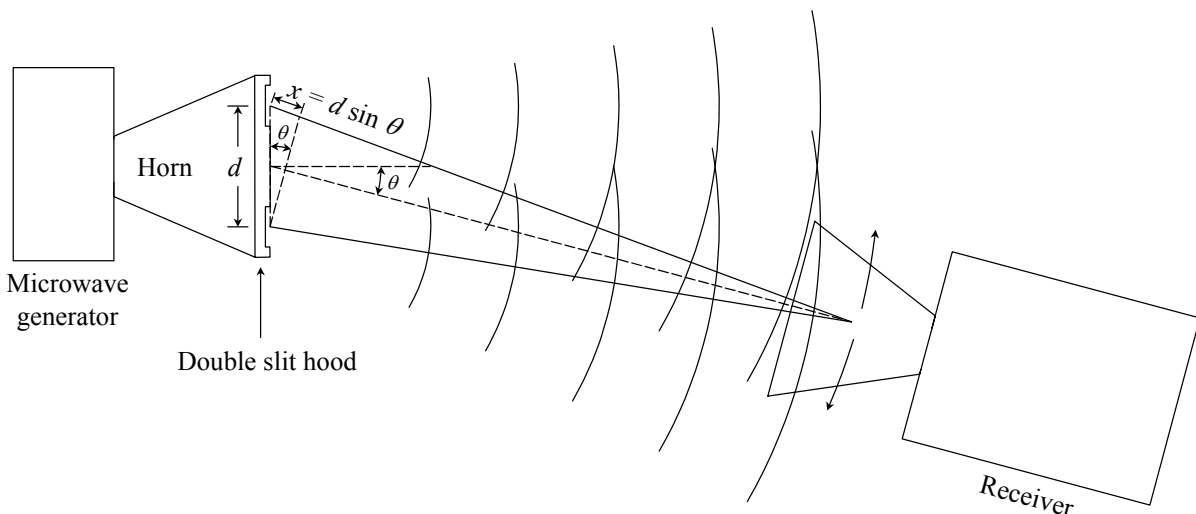

Fig. 6. Interference from the two slit hood.
- Slide the double slit hood over the *generator's* horn, creating two coherent microwave sources as shown in Fig. 6.